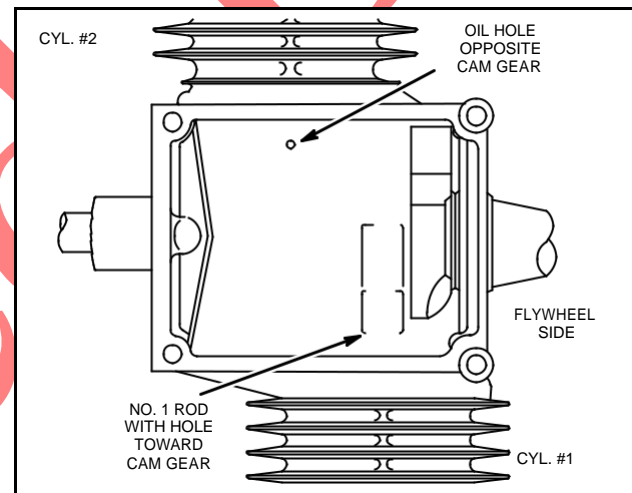

Fig. 5 – Installing Connecting Rods – Models 400000-420000
**NOTE:ENGINE MODELS 400000 – 420000:** With piston and connecting rod assemblies installed, the oil hole in the #1 connecting rod must face toward the cam gear. The oil hole in the #2 connecting rod must face away from the cam gear, Fig. 5.